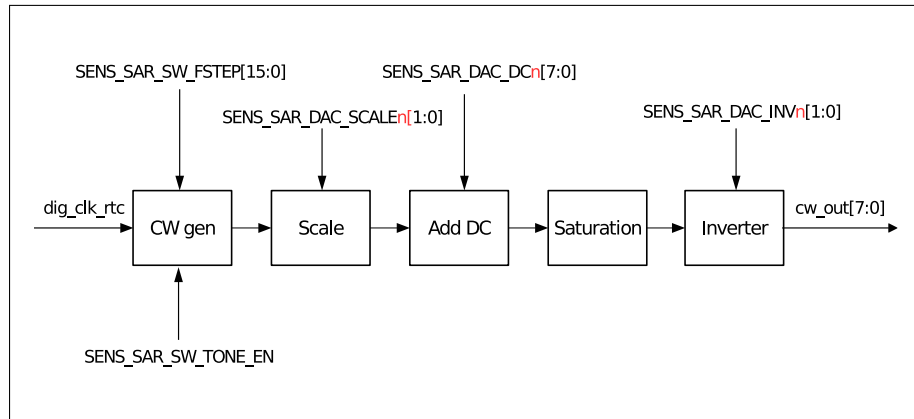

Figure 121: Cosine Waveform (CW) Generator
The cosine waveform (CW) generator can be used to generate a cosine / sine tone. A diagram showing cosine waveform generator's function is presented in Figure 121.